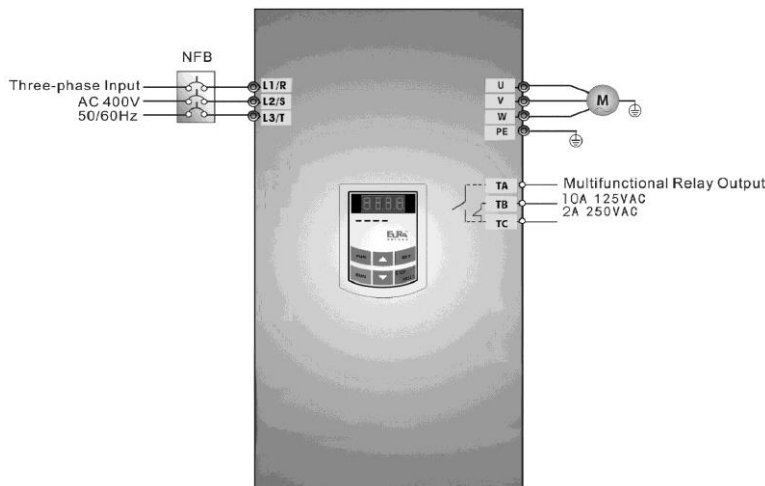

Figure 5-1 Wiring Diagram 1
- (1) Connect the wires in accordance with Figure 5-1. After having checked the wiring successfully, switch on the air switch, and power on the inverter.
- (2) Press the “Fun” key, to enter the programming menu.
- (3) Measure the parameters of the motor
- (1) Connect the wires in accordance with Figure 5-1. After having checked the wiring successfully, switch on the air switch, and power on the inverter;
- (3) Study the parameters of the motor: the operation process is the same as that of example 1.
- (4) Set functional parameters of the inverter: